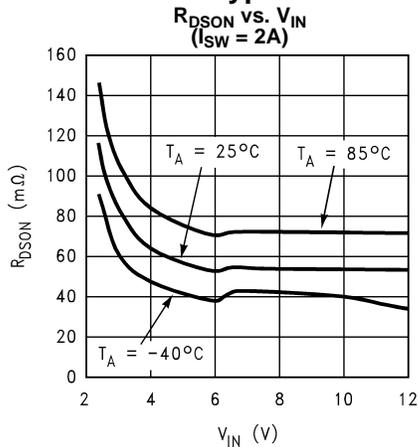

Figure 9.
- $R_{DSON}$  is the ON resistance of the internal switch taken Figure 9 (5)
- $R_{\text{DSON}}$  is the value chosen from Figure 9 (19)